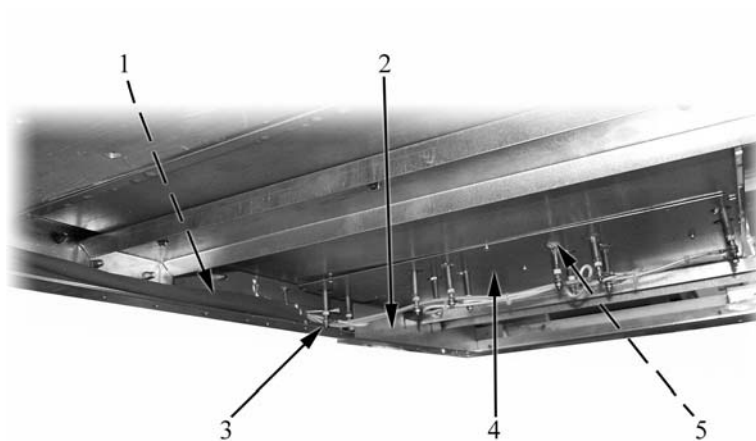

Fig. 12
1. Front fixing screws of the connection cover (2)
2. Lateral fixing screws of the connection cover (6)
- disconnect all of the heating element electrical connections (item 3 in Fig. 12);
- remove the central protection (item 4 in Fig. 12);
- move the insulation plate and unscrew the fixing nuts of the faulty heating element (item 5 in Fig. 12);